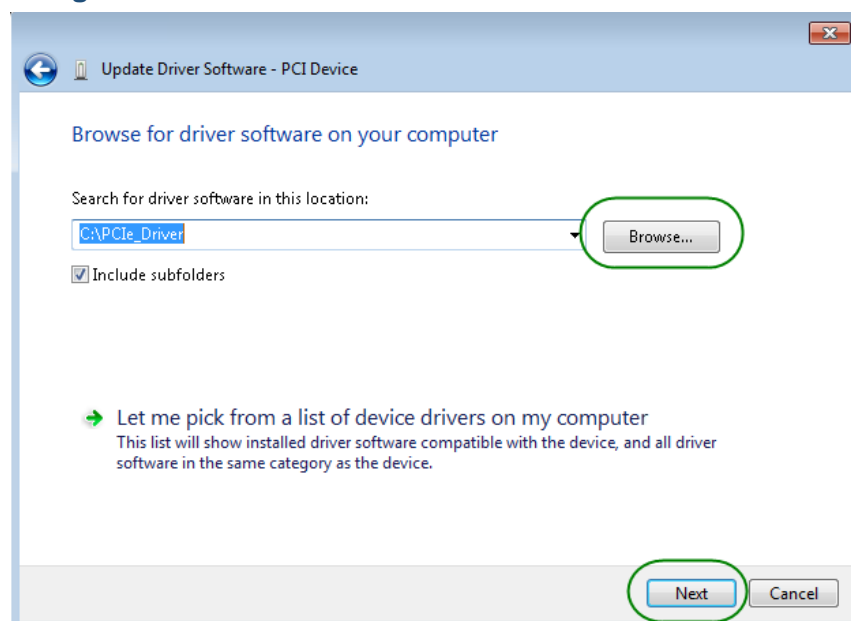

Figure 7-5 Browse for the driver software on your computer
7. In the **Browse for driver software on your computer** dialog, click the **Browse** button to specify the folder where altera_pcie_din_driver.inf is located, as shown in **Figure 7-5**. Click the **Next** button.